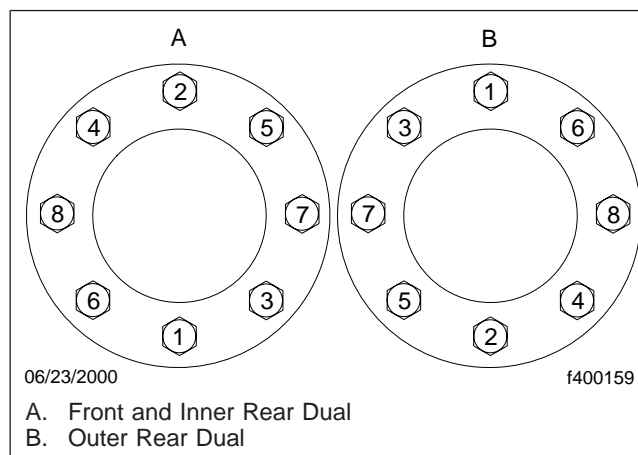
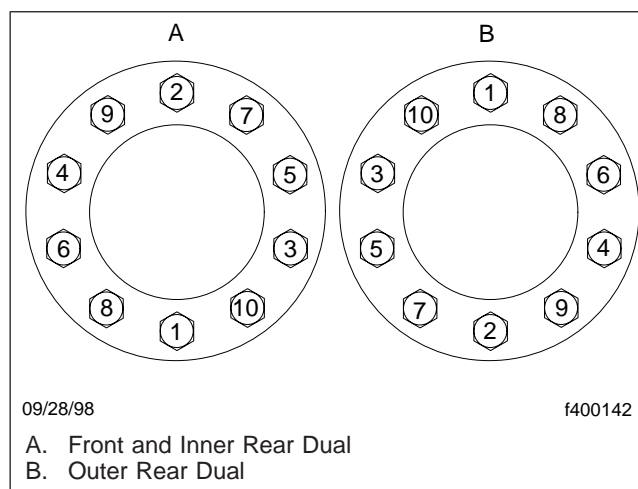

Fig. 2, Wheel Nut Tightening Sequence (8-stud hubs)
Fig. 3, Wheel Nut Tightening Sequence (10-stud hubs)
- On 8-stud or 10-stud, hub-pilot hubs with 20-mm studs, tighten the wheel nuts 280 to 310 lbf-ft (380 to 420 N-m). See Fig. 2 or Fig. 3 for the tightening sequence.
- On 8-stud or 10-stud, hub-pilot hubs with 22-mm studs, tighten the wheel nuts 450 to 500 lbf-ft (610 to 678 N-m). See Fig. 2 or Fig. 3 for the tightening sequence.